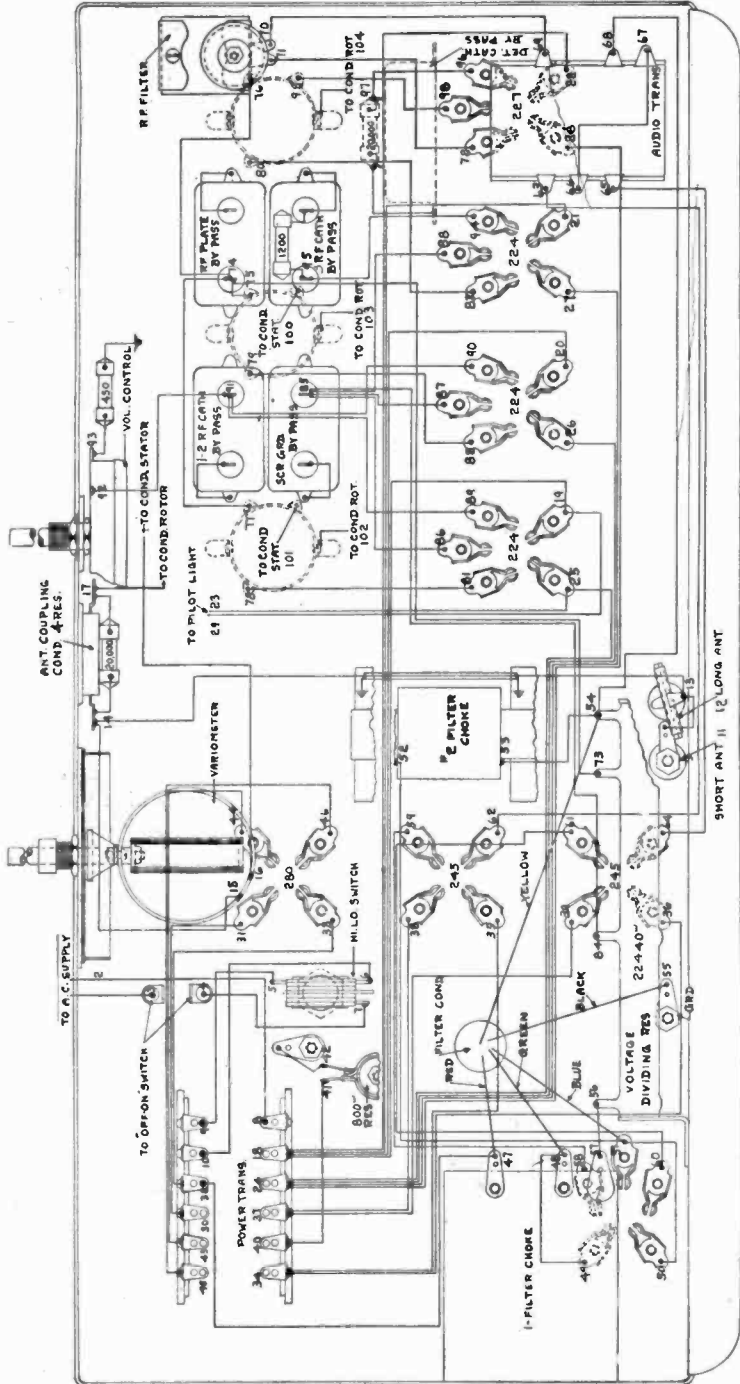

FIG. 2.—Diagram Showing Locations Various Parts and Connections Models 70, 80 and 95.
Tubes used in this receiver are 3 —224, 1 —227, 2 —245 and 1 —280. The schematic wiring diagram is shown in 51 and figure 2 shows the location of the various parts on the chassis.
Assuming that all voltages are correct, place voltmeter terminals between the plate terminal of detector socket (72) and ground of Figure 2. A click will be heard in the speaker if the circuit is OK from the detector plate to the speaker. If a test shows this portion of the circuit OK, place voltmeter between the plate terminal of 3rd R.F. socket (83) (socket adjacent to detector socket) and ground, if a click is heard, the circuit is correct between the plate of the 3rd R.F. stage and ground. If no click is heard, the trouble lies between the plate of the 3rd R.F. stage and the detector plate. This trouble will then be located in the aligning condenser of the detector stage, open or grounded detector grid coil, or the detector tuning condenser shorted.
The continuity of the various circuits of the receiver can be tested by the use of the ordinary voltmeter and B battery. In conducting this test reference should be made to figure 2 which shows the location of the various numbers given in the following paragraphs.